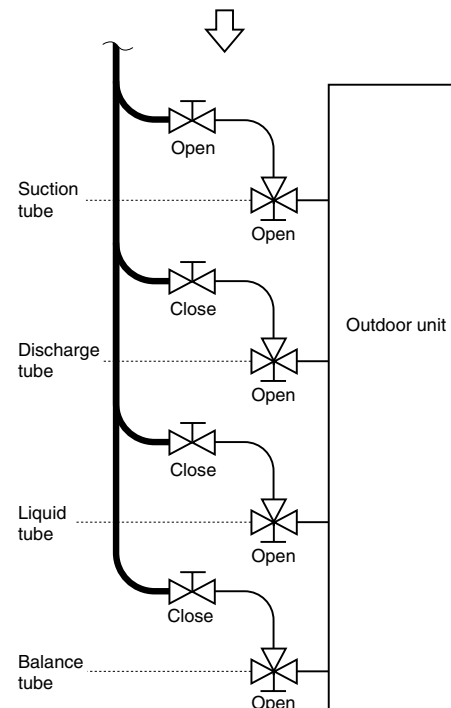

Fig. 7-6
- If the additional refrigerant charge amount cannot be charged at once, charge the remaining refrigerant in liquid form by using the suction tube service valve with the system in Cooling mode at the time of test run. (Fig. 7-6)